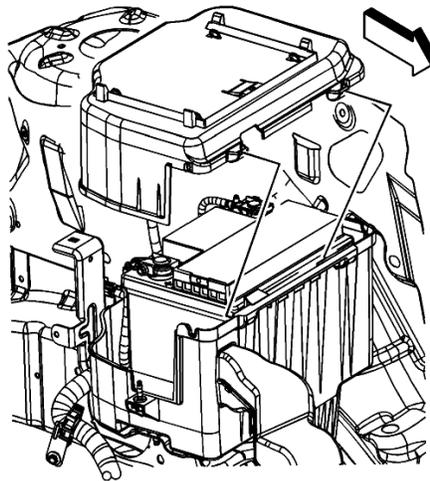

Fig. 3 Battery shield
8. Remove battery shield, **Fig. 3**.